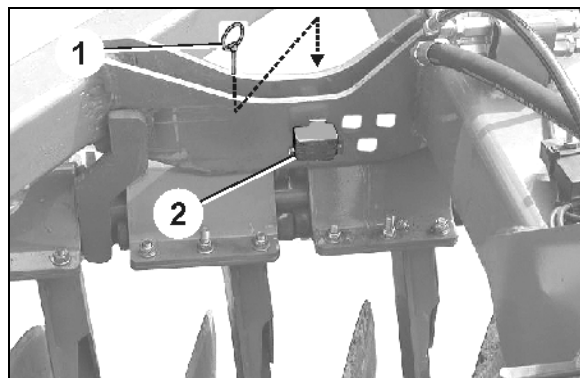

Fig. 18
1. Release the lynch pin (Fig. 18/1).
2. Fit the eccentric pin (Fig. 18/2) into the required insertion hole.